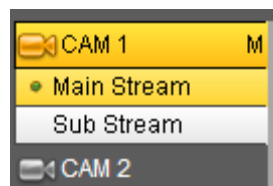

Figure 5-3
- Section 2: There are connected channel numbers. Please refer to Figure 5-3 for main stream and extra stream switch information.